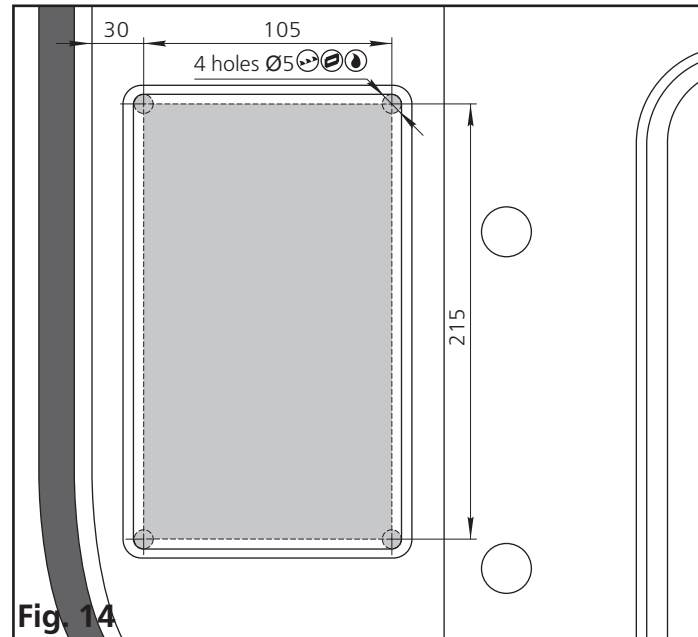

Fig. 14
2. Make a rectangular cutout with an angle grinder in the body rack (Fig. 14).